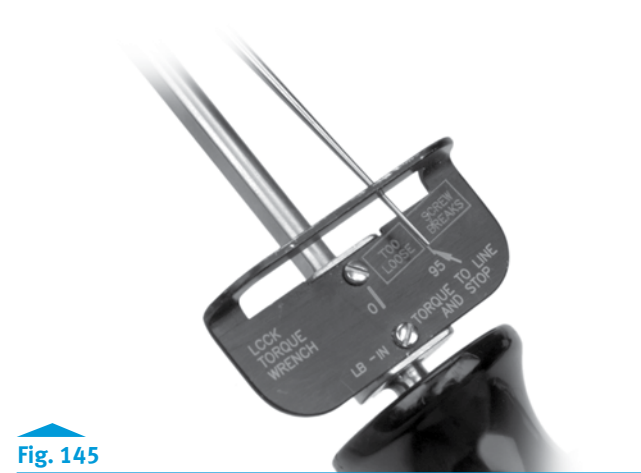

Fig. 145
- Use the LCKK Torque Wrench (black handle) and 4.5mm Hex Driver to torque the hinge pin to 95 in-lbs (Fig. 145).